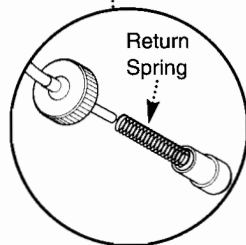

Fig. 63a
6. Fit the new flow switches and reassemble in reverse order. The spring **must** always be refitted to the central heating flow switch (Fig. 63a).